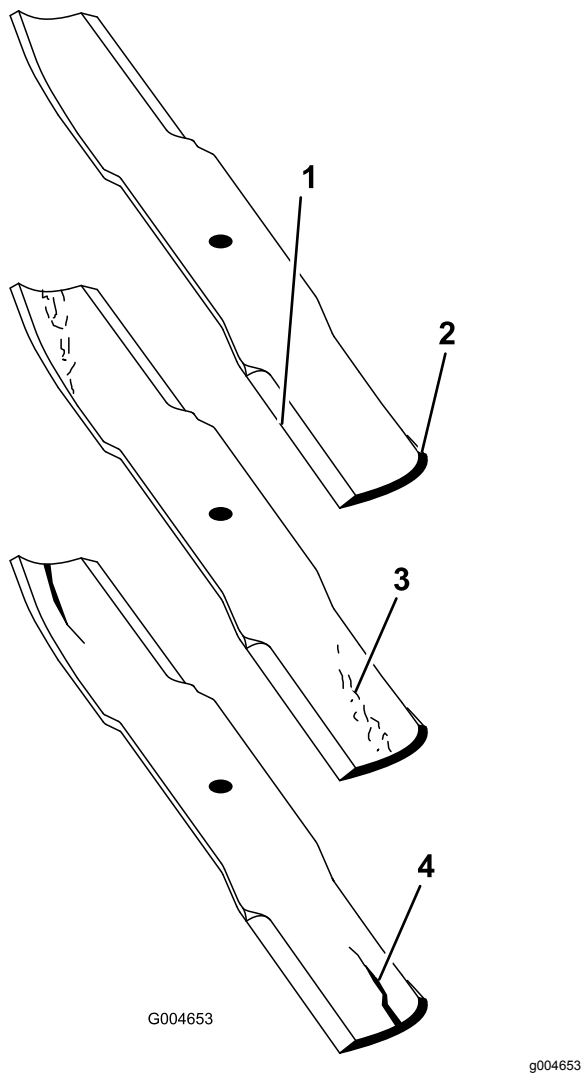

Figure 125
2. Examine the cutting ends of the blade carefully, especially where the flat and curved parts of the blade meet (Figure 125).
Note: Because sand and abrasive material can wear away the metal that connects the flat and curved parts of the blade, check the blade before using the machine. If you notice wear, (Figure 125), replace the blade.